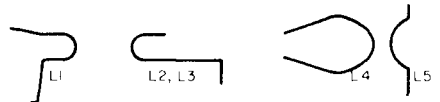

fig. 3. Coils for 6939 mixer (fig. 2) and linear-amplifier (fig. 10).*
*Full-size templates of fig. 3, fig. 8 and fig. 18 are available from ham radio for 25c.